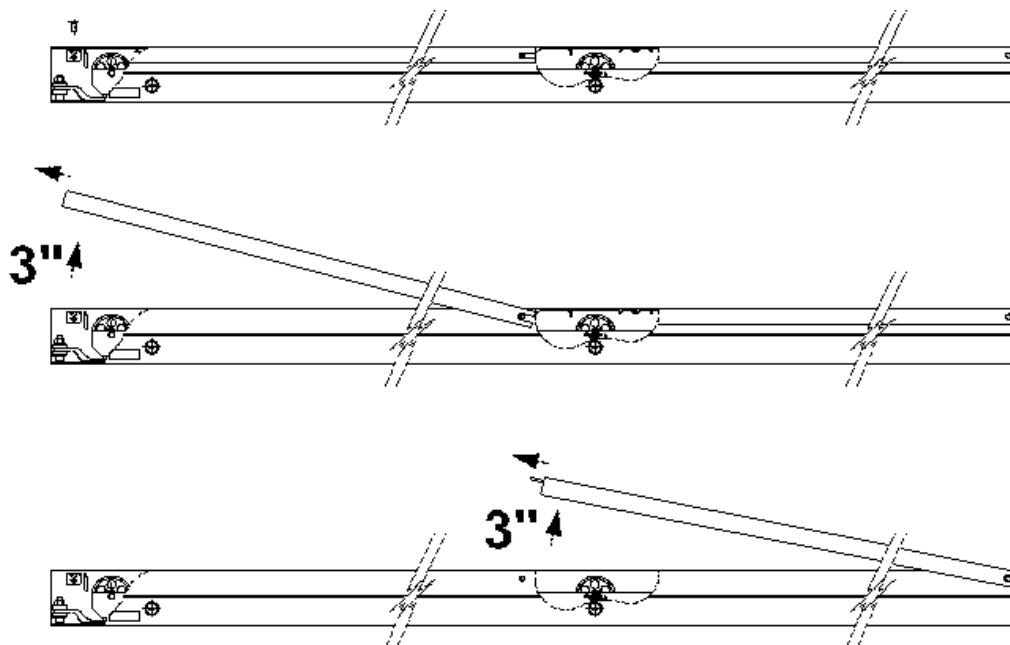

Figure 5-5 Cover Plate Removal Process
1. Remove two (2) flat head screws from the screw end Cover Plate. (Fig. 5-5 Top)
2. Lift screw end Cover Plate (**Approx. 3"**) and pull back to free it from the retaining pin at the middle of the conveyor assembly. (Fig. 5-5 Center)
3. Lift tab end Cover Plate (**Approx. 3"**) and pull back to free it from the retaining pin at the far end of the conveyor assembly. (Fig. 5-5 Bottom)